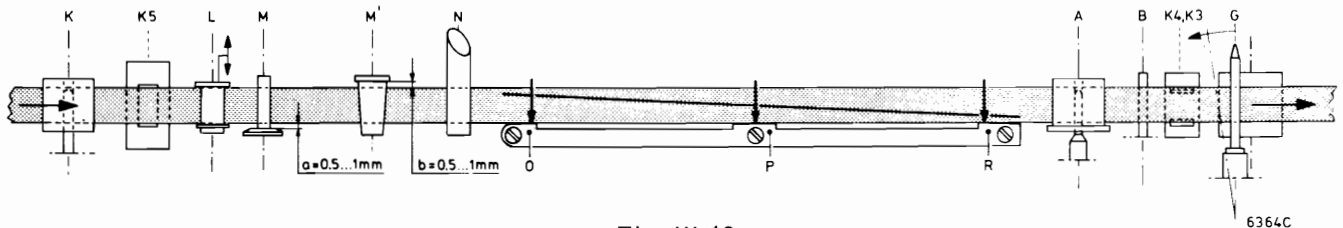

Fig. III-18
The drum ruler (with cams O,P and R) (Fig. III-18) has been accurately factory-adjusted.
- Cassette roller spindles A and K (Fig. III-18,19). If necessary, these spindles can be adjusted with bending tube 4822 395 80151. This tube has a hole on both ends. The largest hole serves for spindle A and the other hole for spindle K. Slide the tube over the spindles as far as possible but be sure that the tube does not touch the chassis.
- Check if tape guide M' is adjusted low enough. The distance a (see Fig. III-18) must be 0.5...1 mm.
- Check if tape guide M is adjusted high enough. The distance b (see Fig. III-18) must be 0.5...1mm.
In Fig. III-18, arrows indicate the spots on the cams O, P and R where, with a mirror, should be checked if the tape touches the cams correctly.